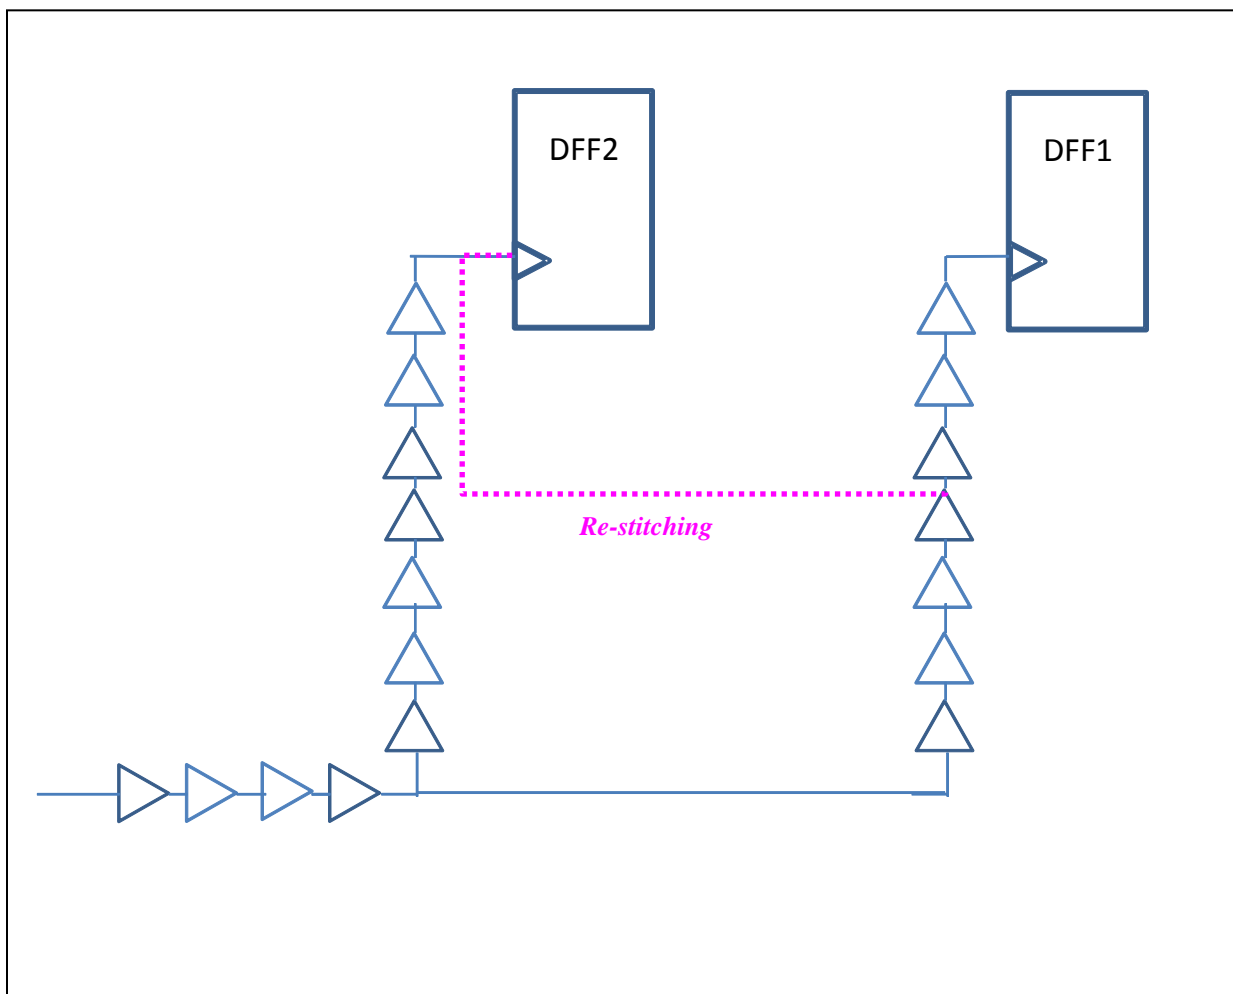

Figure 3 – Extra CRPR timing bonus with re-stitching
- **Tips:** We can get the extra CRPR timing bonus for re-stitching. In Figure 3, by re-arranging the launch & capture clock (DFF2/CK & DFF1/CK) to the same CTS branch (DFF1/CK branch), we can easily bypass the CRPR penalty, and get less tool calculation pessimism. In some cases, we can get ~120ps extra bonus on this in-depth study re-stitching.